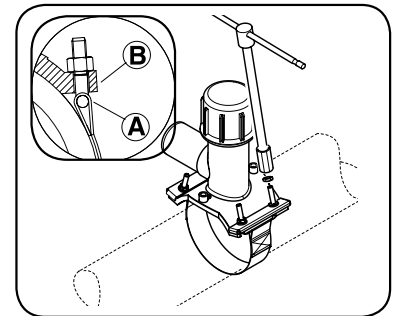

FIG.2
- 5 Fasten the tapping tee on the pipe using the FLEXIBLE BELT: use a wrench to tighten the four screw nuts until the u-bolt A and the top part of tapping tee B come into tight contact (see fig.2).